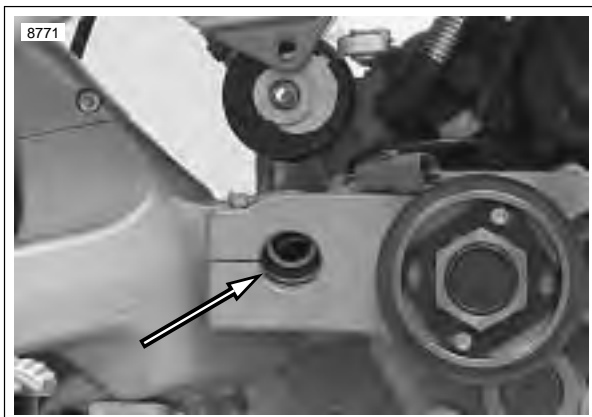

Figure 3-38. Aligning Swingarm to Crankcase for Pivot Shaft Installation (Typical)
3. See Figure 3-38. With engine on a flat scissor jack, raise engine and chassis until swingarm and rear isolator mount align and pivot shaft can be installed.